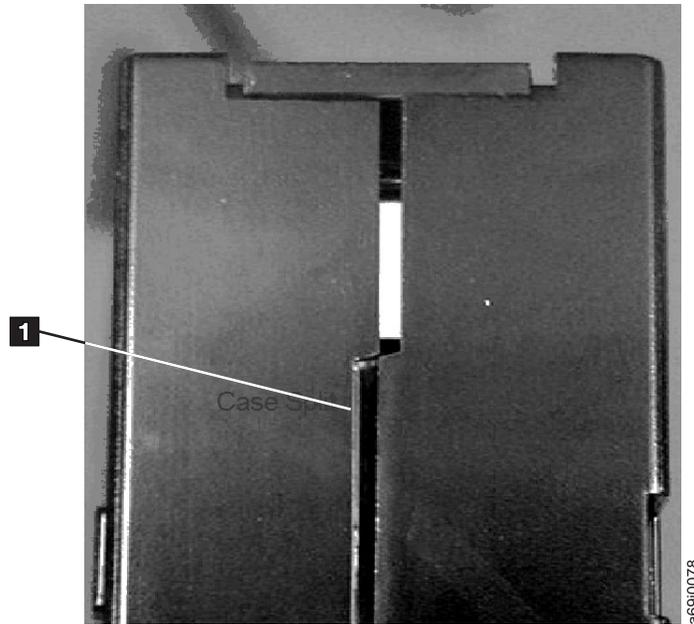

Figure 49. Gap in cartridge seam
3. Inspect the rear of the cartridge (the part that you load first into the tape load compartment) and ensure that there are no gaps in the seam of the cartridge case. (Refer to **1** in Figure 49 on page 247. If there are gaps in the seam, the leader pin may be dislodged and may need to be repositioned.)